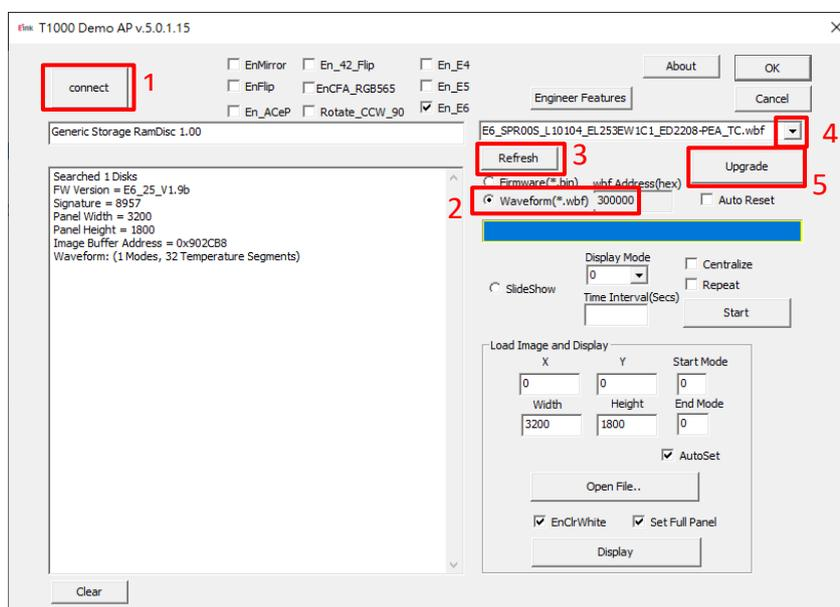

Figure 3.5
(3) How to upgrade waveform
- ◆ Execute "T1000_Windows_AP_x.x.x.xx.exe" (refer to Figure 3.5)